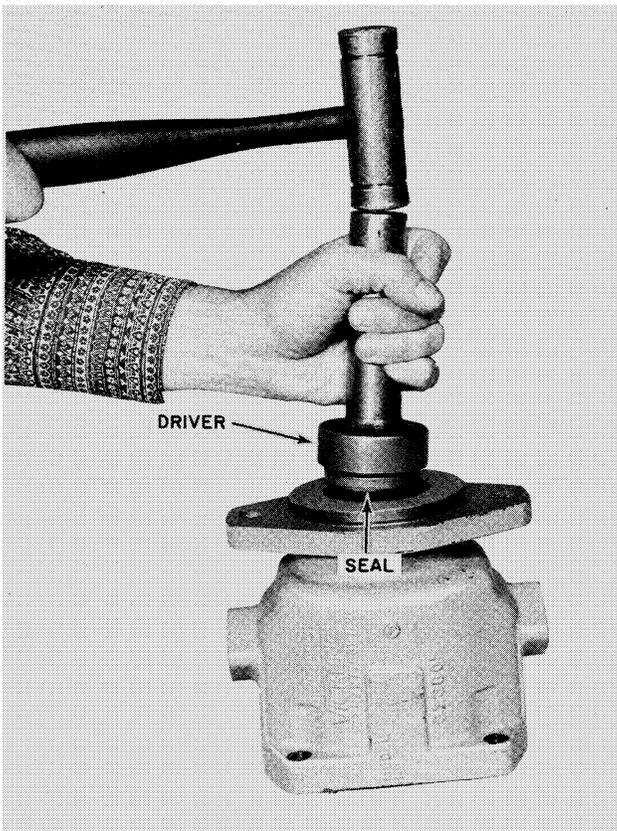

FIGURE 37
26. If the shaft seal is to be replaced, use a shaft seal driver of the proper dimension or an arbor press, if available. Position the shaft seal on the driver; then place the seal in position and drive it into the pump or motor housing as shown in Figure 37.